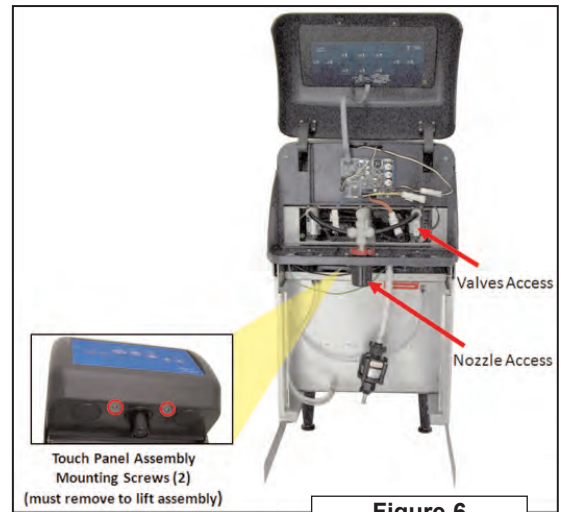

Figure 6
3. Verify unit is off. Lift the button panel shroud (Fig 6).
- B. Mounting on Faucet Plate (Fig 6 & 7)